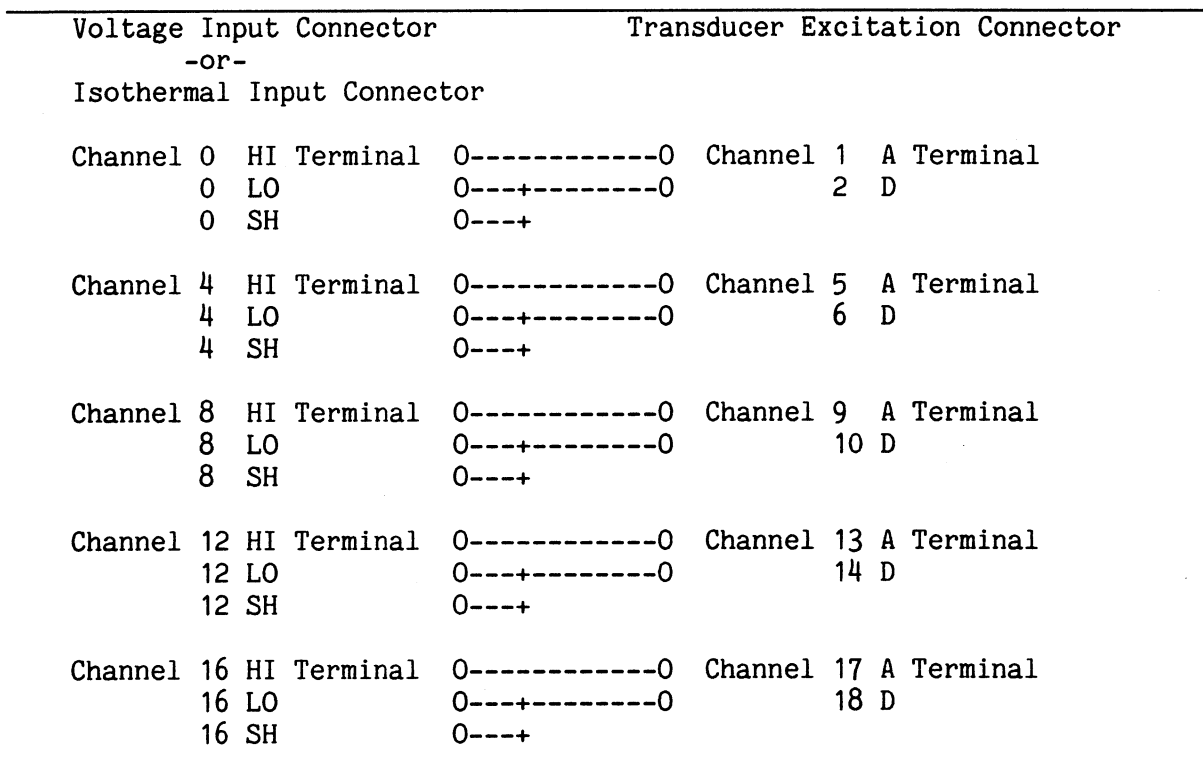

Figure 164-2. Current Excitation Test Wiring Diagram 1
7. Wire the Transducer Excitation Connector to an Isothermal Input or Voltage Input Connector according to the diagram in Figure 164-2.